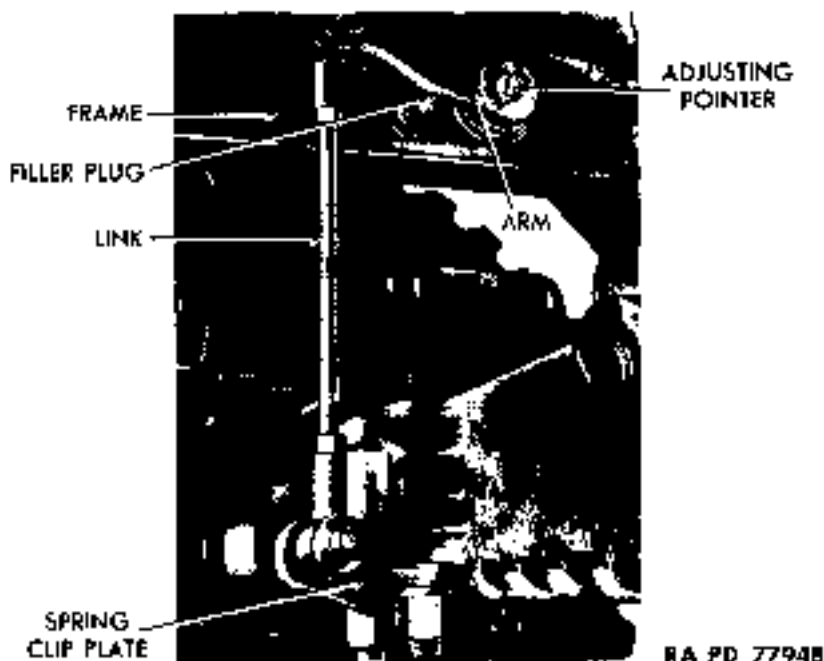

Figure 85 - Front Shock Absorber Installed
(1) **DESCRIPTION** (figs. 85 and 86). Four shock absorbers are attached to inside of frame side rails. The front shock absorbers are in front of front axle, and the rear shock absorbers are behind rear axle. Shock absorbers are a double acting, oscillating-valve type. They are used to control spring action, and offer more resistance to spring recoil than to spring compression.
(1) **MAINTENANCE** (figs. 85 and 86). Check fluid level and refill, if necessary. To fill shock absorber, observe the following procedures:
(2) **ADJUSTMENT** (figs. 85 and 86). No adjustment of links is required. Shock absorber arm tension is increased or decreased by turning an adjusting pointer outside the shock absorber. Turn pointer counterclockwise to increase resistance, or clockwise to decrease resistance. Make adjustment one mark or  $\frac{1}{16}$  inch at a time. **NOTE:** Full range of adjustment is one-half turn or between the two stops. Do not turn pointer beyond these stops.
c. **Removal** (figs. 85 and 86).
### d. Installation (figs. 85 and 86).